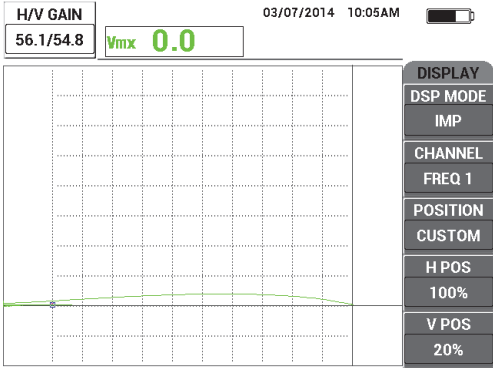

Figure 5-42 Decreasing the GAIN to adjust the signal
- 3. Place the entire stack of shims (four 0.5 mm shims, or 2.0 mm thickness) on the standard, and then, while firmly pressing the probe on the shim stack, press the GAIN key (**dB**) to decrease the gain until the dot reaches the limit on the left side of the 10 × 10 grid (0 % horizontal) [see Figure 5-42 on page 157].